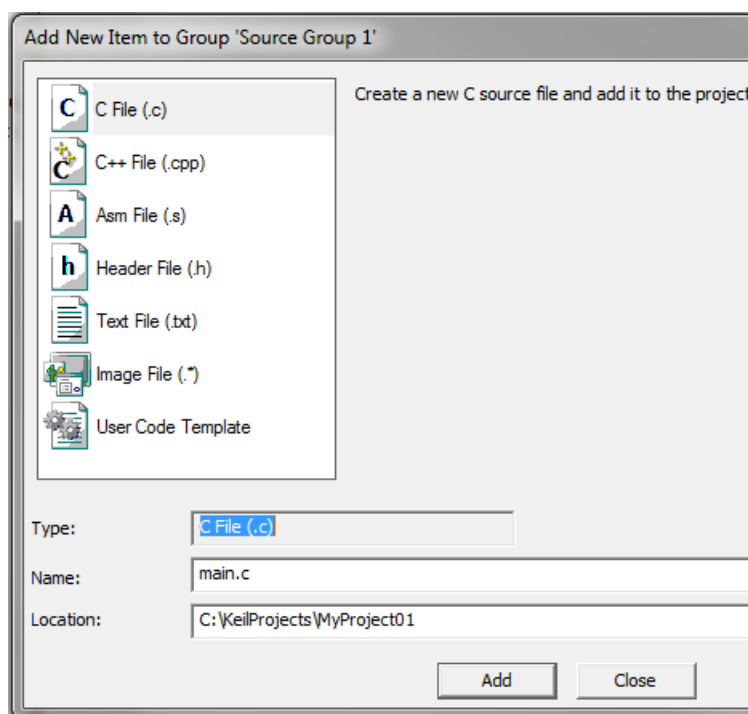

Figure 1-38. Adding new source file dialog
2. Select the C File (.c) option, and type a name of the file into the Name box, for example 'main.c'. See Figure 1-38.